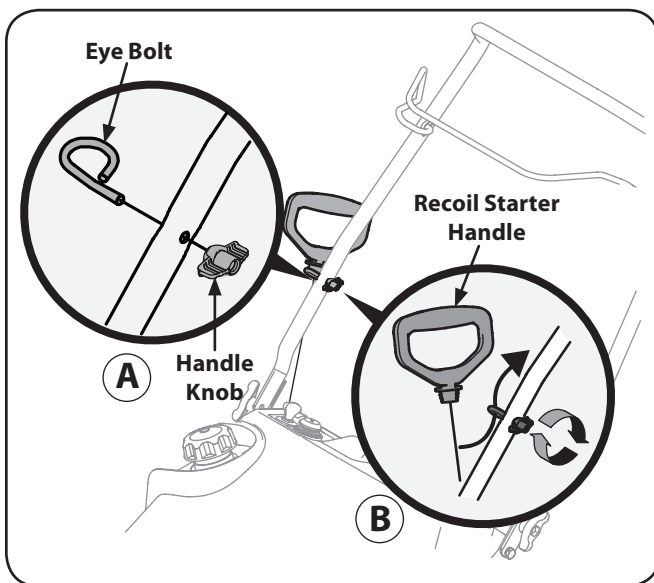

Figure 3-7
- Place the eye bolt and handle knob on the upper handle as shown in Fig. 3-7. Do not fully tighten the hardware until instructed to do so.
- Slip the recoil starter rope into the eye bolt from the back of the snow thrower. See Fig. 3-7.